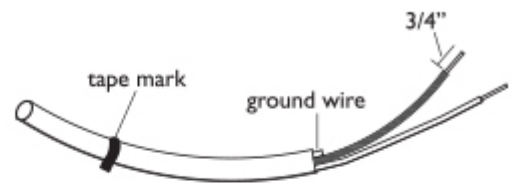

Figure 3
4. Starting at the cut end, carefully strip back each of the pendant cords' outside insulation to about halfway from the taped marks. If your pendant has a green ground wire, this wire can be cut off entirely as the pendants are not individually conductive. Next, strip back approximately 3/4" of the insulation on each of the remaining two inner wires of each pendant. (Figure 3)